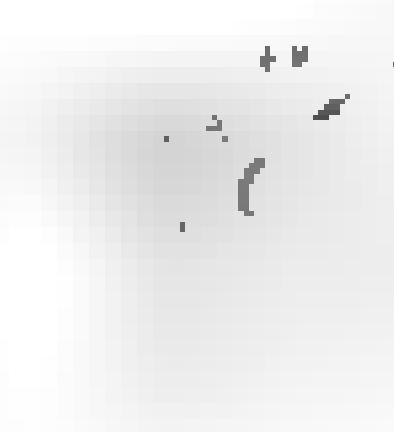

Figure 2-8
10. Insert the flat head hex screw through the top of the BQRS elevation knob engaging the threads in the knob adapter. Exclude the screw will be removed in a later procedure, only "snug" tighten the flat head screw with the T-25 L-shaped Torx wrench. Figure 2-8. After tightening, rotate the BQRS elevation knob to ensure there is no binding during rotation. "Snug" tighten the BQRS knob set screw using the J35 L-shaped Allen wrench. Ensure that the flat screw is seated below the outside chamfer of the elevation knob.